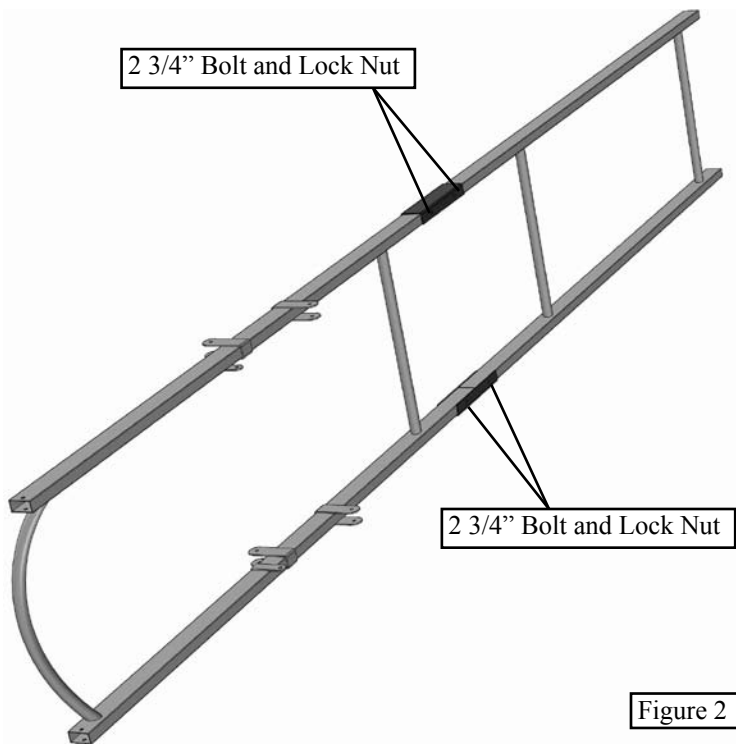

Figure 2
Step 2. Line up the holes and lay one coupler plate across the joint. Bolt together using two 2 3/4" long bolts and lock nuts (See **Figure 2**).